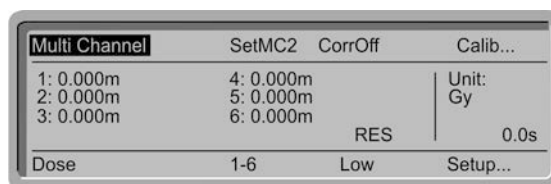

Figure 3-3: Cursor on "Multi Channel"
- Using the cursor keys ▲ and ▼ position the cursor on the application label (for instance, on "Multi Channel" Figure 3-3).